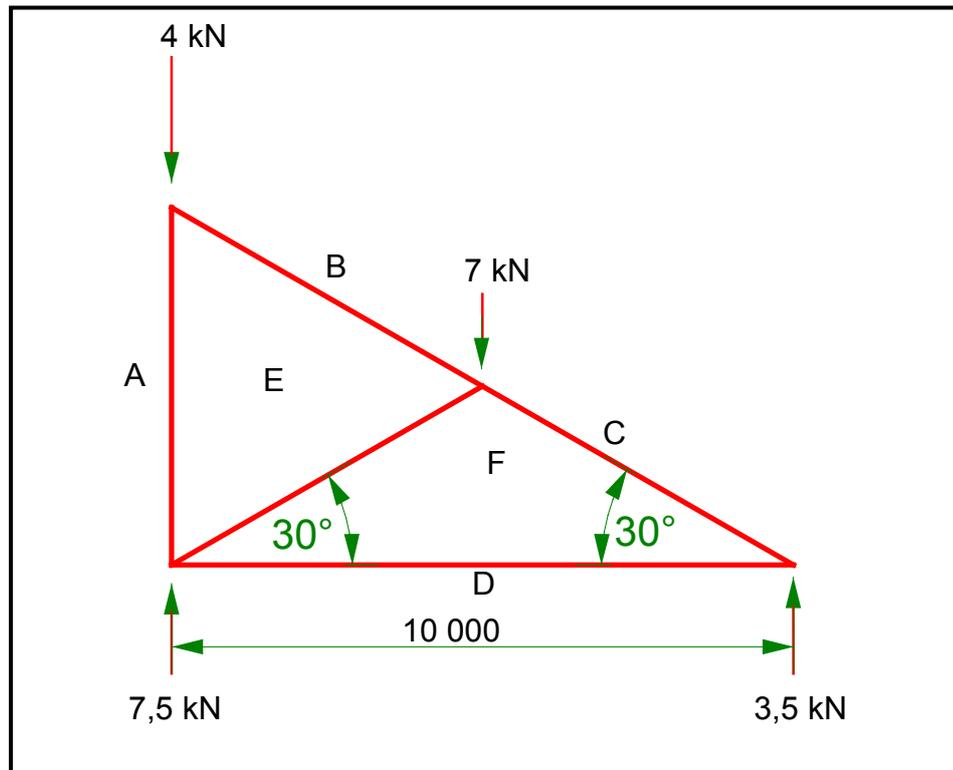

FIGURE 5.2
5.2 FIGURE 5.2 shows the space diagram of a roof truss.
- 5.2.1 Analyse FIGURE 5.2 and develop and draw the vector (force) diagram of this frame on ANSWER SHEET 5.2. Use scale 1 mm = 1 N. (4)